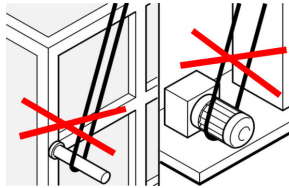

fig. 2.3
6. For handling operations of the unpacked machine, please refer to Part 7 "TRANSPORT, HANDLING AND INSTALLATION" of this manual. In any case, never lift the machine from the rollers, housing or projecting parts (fig. 2.3).